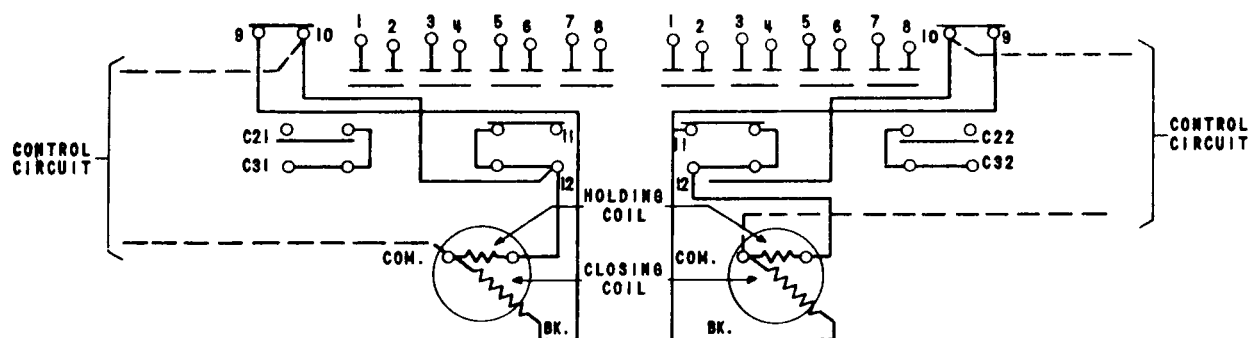

FIG. 1 SCHEMATIC DIAGRAM OF KS-5626 CONTACTOR CONNECTIONS
1.21 KS-5626, KS-5757, KS-15674 contactors are of the reversing type and consist of two individual multiple contactor units mounted on a common base and provided with a mechanical interlock, which prevents the closing of both contactor units at the same time. Each individual contactor is, in effect, a magnetically operated, normally open, single throw switch, and consists essentially of a magnet coil and a plunger mechanism supported on a yoke structure. Contact finger assemblies bridge a corresponding number of contact studs when the coil is energized. The contactor is arranged for vertical panel mounting and front of board wiring. For internal wiring diagram of KS-5626 see Figure 1. The coil and auxiliary contacts are arranged for dc control circuits and the main contacts are rated as follows: